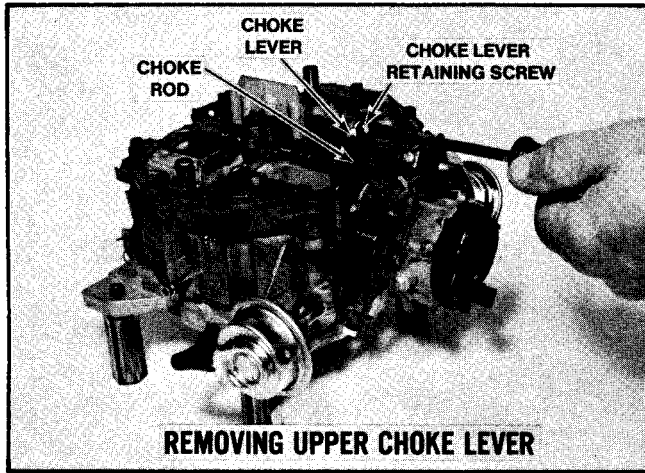

Figure 43 Removing Upper Choke Lever
3. Remove upper choke lever from the end of choke shaft by removing retaining screw (Figure 43). Then, rotate lever to remove choke rod from slot in lever.